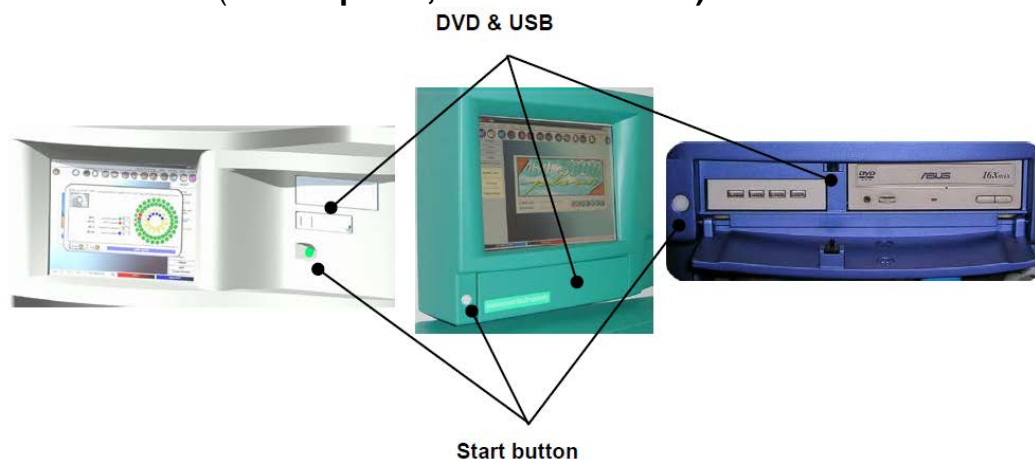

Figure 8
- 3) To switch on the analyzer, use the main power switch on the rear panel of the instrument. This button activates only the refrigerating system for the reagents, where available. To properly turn on the analyzer system, press once the green push-button placed on the front panel (**Fig. 8**). For what concerns the **BT1500**, **make sure the analyzer is turned on**, verify that the external PC is connected to the analyzer via USB, **then** turn the PC on and then load the analyzer operative program.